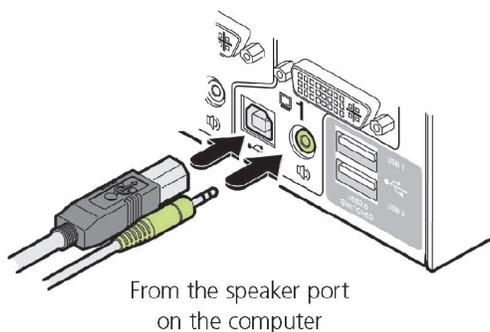

FIGURE 3-7. CONNECTING A COMPUTER UNIT TO THE WIZARD DVI DL UNIT.
3. If required, use a stereo audio link cable (3.5-mm jacks at either end) to link the speaker port on the computer system to the audio port of the required channel on the rear of the unit. See Figure 3-7.